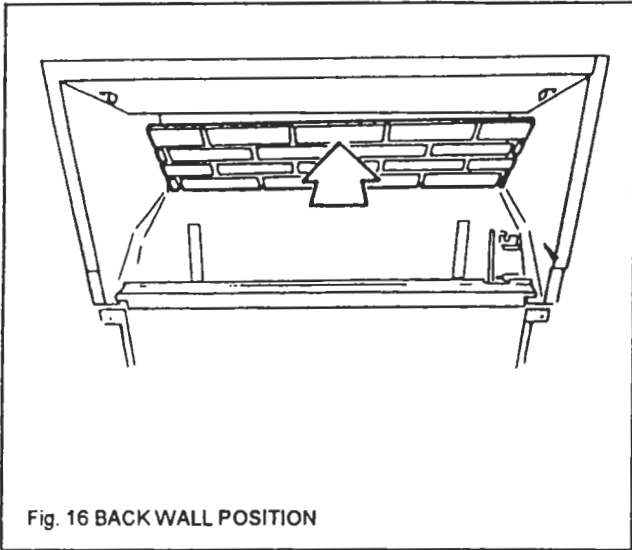

Fig. 16 BACK WALL POSITION
6.1 Place the ceramic back wall in position at the back of the firebox. Make sure that the brick pattern is the right way up so that it will align with the side walls pattern (see fig. 16).